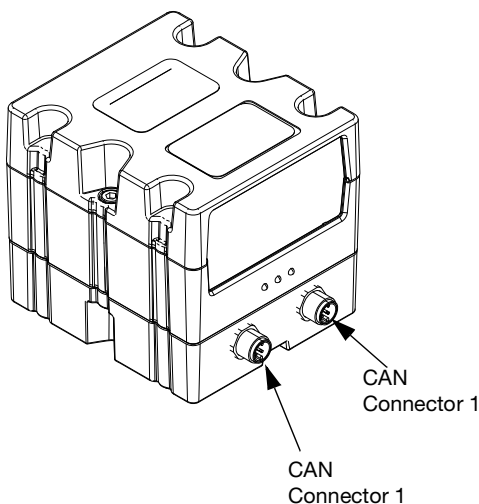

FIG. 50
3. Mount CGM (A) on base (B) with two screws (C).
4. Install access cover (D).
5. Connect CAN cable from either CAN connection on the CGM to the CAN connection found on the CGM to the CAN connection found on the bottom of the ADM. See Fig. 50.